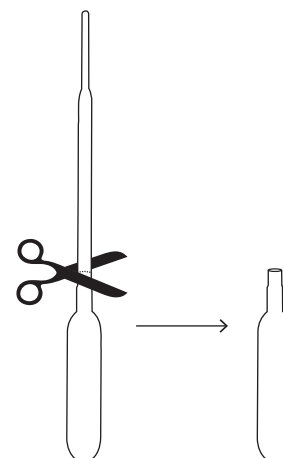

Figure 2.
10. Cut the long stem off of the pipet included in the kit. See Figure 2.